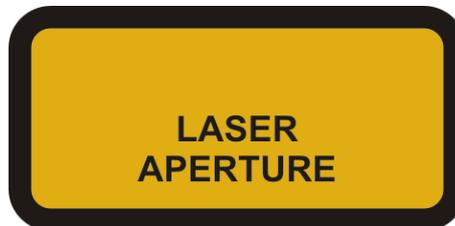

Figure 2-5: Laser Aperture sign
- Laser Aperture sign, see figure 2-5.